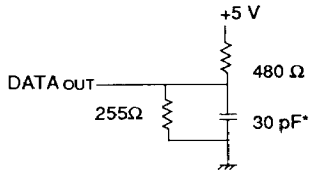

Figure 1. Output Load
| Output Load                   | See Figures 1 and 2 |
1. Transition is measured by ±500mV from low or high impedance voltage with load (Figures 1 and 2).
1. Transition is measured by ±50mV from low or high impedance voltage with load (Figures 1 and 2).